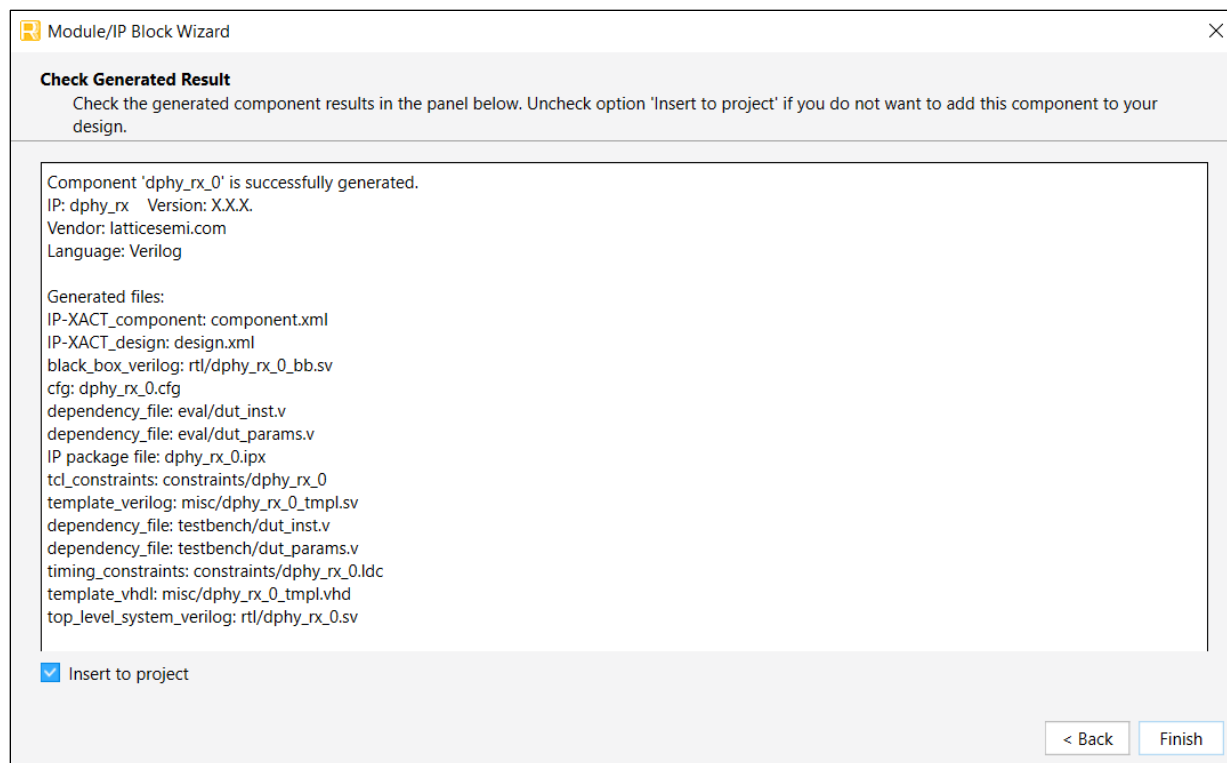

Figure 7.3. Check Generated Result
- Click **Generate**. The **Check Generated Result** dialog box opens, showing design block messages and results as shown in Figure 7.3.